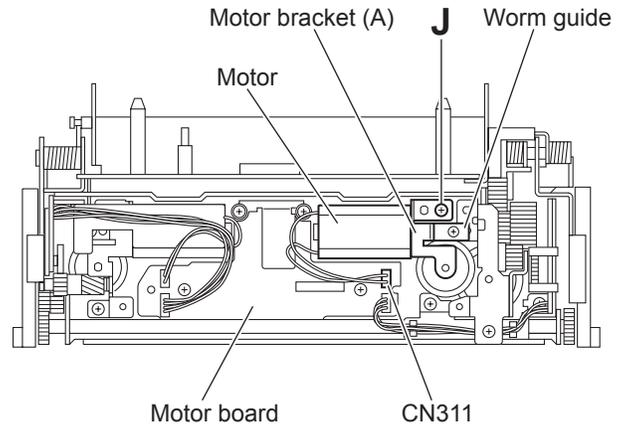

Fig.17
### 3.2.6 Removing the second wheel and R.L.S. gear (See Figs.17 to 24)
- (1) Disconnect the wire from the connector CN311 on the motor board. (See Fig.17.)
- (2) Remove the screw **J** attaching the motor bracket (A). (See Fig.17.)
- (3) Take out the motor bracket (A), worm guide and motor together. (See Fig.17.)